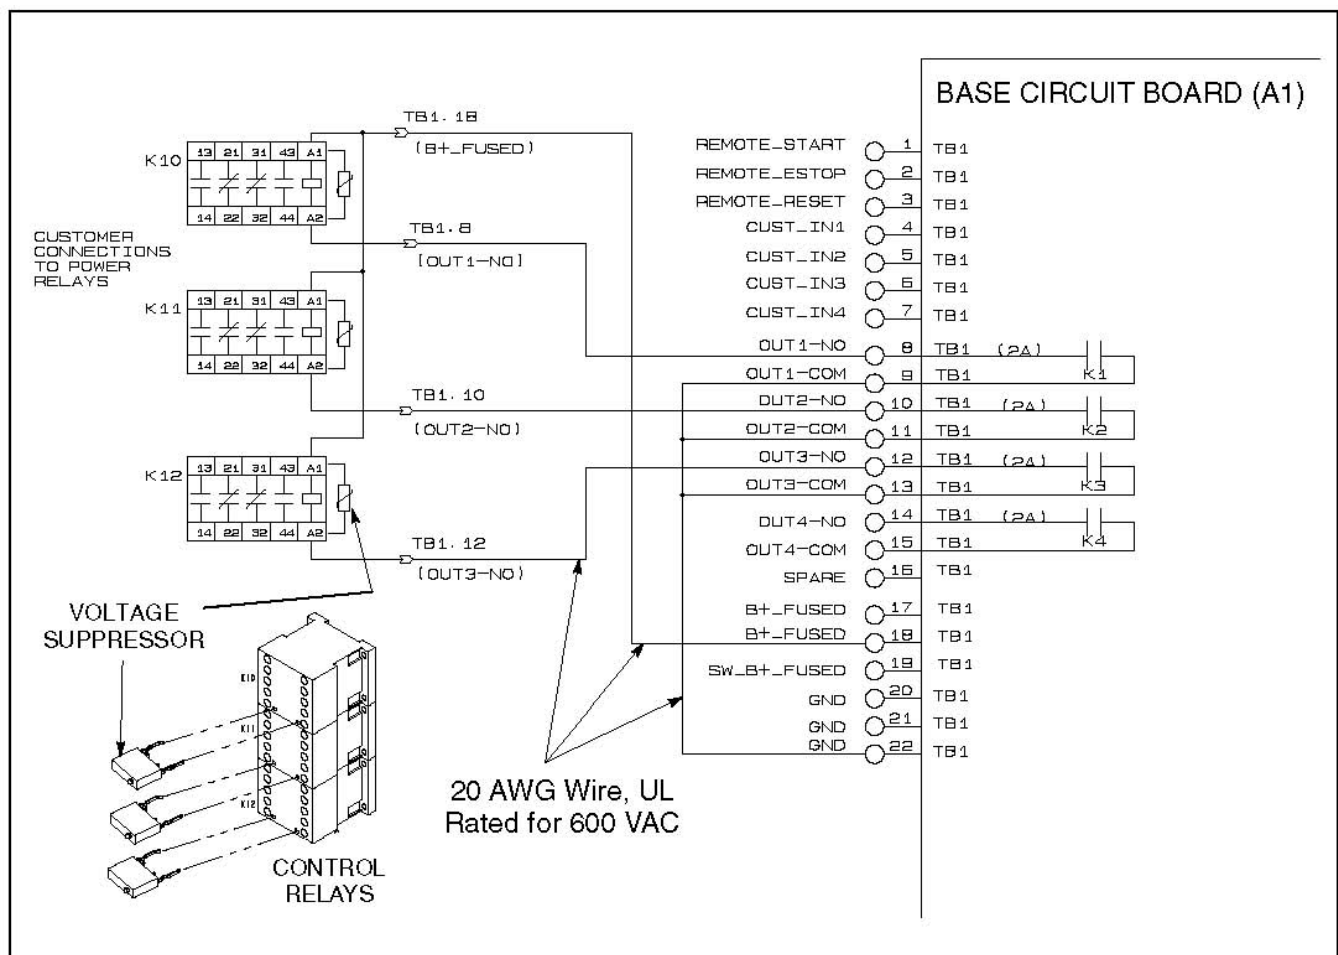

FIGURE 32. OPTIONAL CONTROL RELAYS (K10, K11, K12)
***Damage to the Base board can occur if the voltage suppressors (Figure 32) are not installed across relay coils (A1/A2) before connecting genset battery cables.***
These relays (Figure 32) are used to control auxiliary equipment, such as fans, pumps and motorized air dampers. Energizing of the relays is user definable (refer to *TB1 Customer Outputs* in this section for customizing information.)